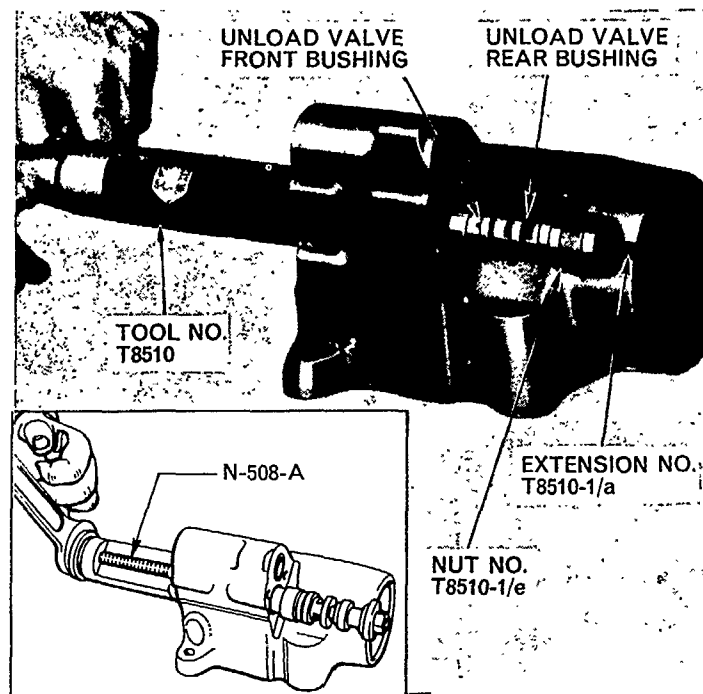

Figure 26
3. Place the unload valve rear bushing over the Extension, making the assembly with the long spigot end facing away from the front bushing. Screw the special Guide Nut T.8510-1/c on to the extension and locate the adjacent spigot end of the rear bushing in the counter bore in the nut, Figure 26. Lubricate the outside surfaces of both bushings and draw them into the bore until the inner end of the spigot (the back of the rear bushing) on the rear bushing is flush with the rear face of the cylinder. The bushings are correctly located when the front face of the guide nut touches the rear face of the cylinder. The rear bushing must be centralized correctly when making the assembly, otherwise difficulty may be experienced in obtaining entry into the bore.
Alternatively use Lift Cylinder Bushing Remover and Replacer No. N-508-A to install the unload valve bushings, inset—Figure 26.